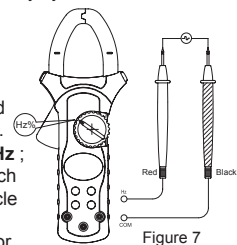

Figure 7
- Connect the test leads to the proper terminals as said above to avoid error display. The LCD will display **OL** indicating diode being tested is open or polarity is reversed. The unit of diode is Volt (V), displaying the forward voltage drop readings.
F. Measuring Frequency and Duty Cycle (See Figure 7)